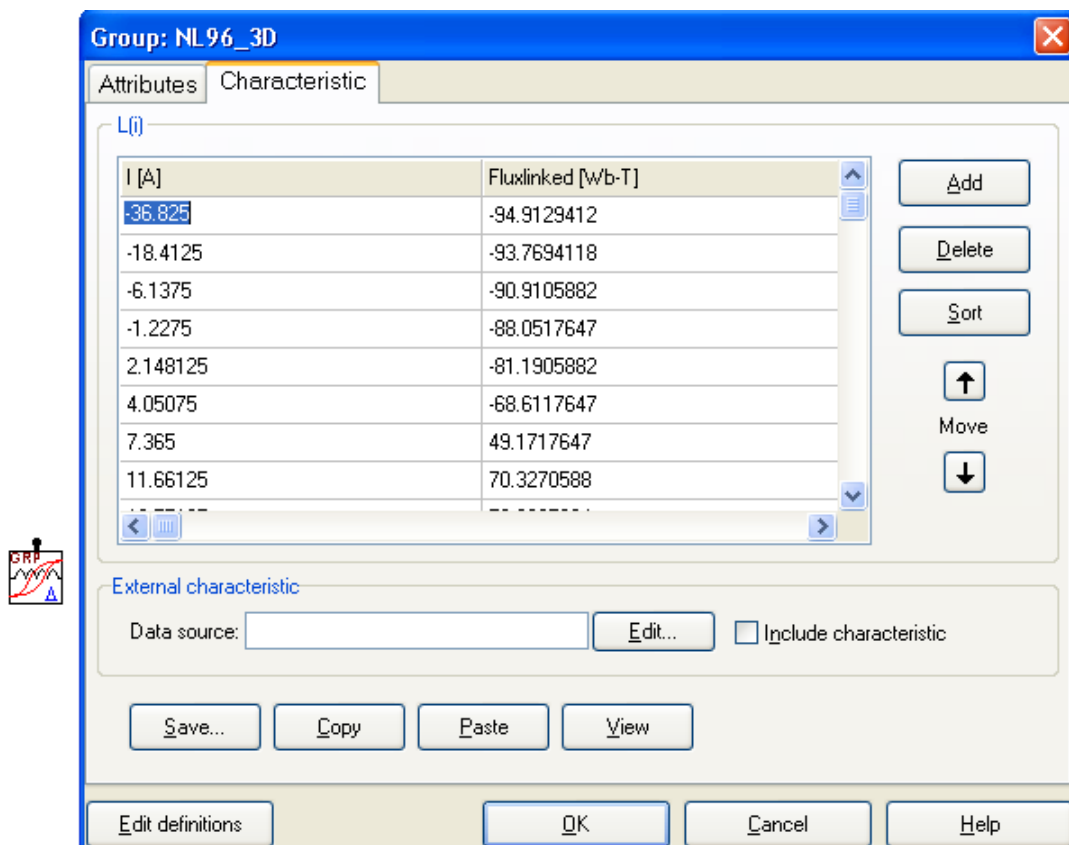

Fig. 5.11 - Nonlinear characteristic of the 3-phase Type-96 group (notice that only one characteristic is specified, that is used for all phases).
When you press *OK* the group object is created. The group dialog box shown in Fig. 5.11 contains only one entry for CURR, FLUX, RESID, and FL(0) which are used for all phases, although 3 copies of them are present in the data structure. This results in 26 free data cells available for the nonlinear characteristic $(64-3*4)/2 = 26$. Only one characteristic is entered in the group's dialog box and it is later copied back to all the three inductors. If the 26 data points were insufficient to describe the characteristic as you wish, select the *Include characteristic* option and specify the characteristic in a disk file. The name of that file must be entered in the *\$Include* field.
You can customize the group icon as shown in Fig. 5.11 (vector icon illustrated in this case). The hysteresis loop originates from the original inductor icon. This is done by executing the next sequence of operations: click on *Edit definitions* and go into the vector icon editor (leftmost speed button). The default icon is shown as a box with the text 'GROUP' and 'nl96_3d'. Modify